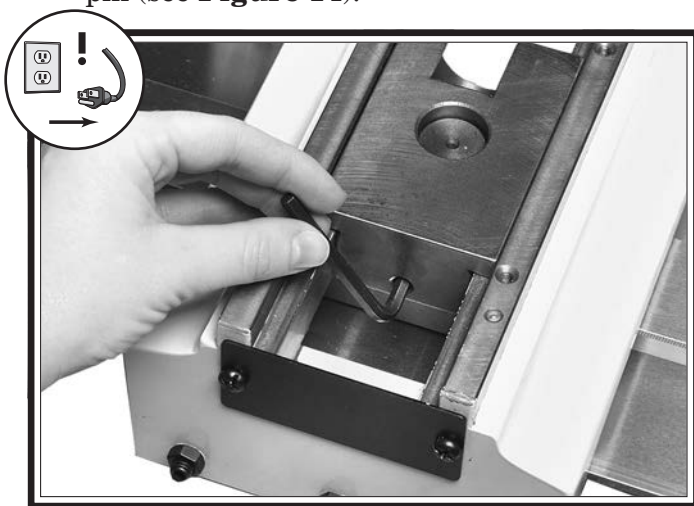

Figure 14. Slide block set screw adjustment.
17. Snug the slide block set screw until the brass plug is slightly pre-loaded against the pivot pin (see **Figure 14**).